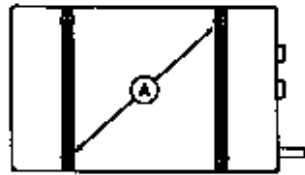

Fig. 1
- loosen the screws "A" (Fig.1) on upper and bottom side of the unit. The other two screws on each side are only there for optical reasons and must not be loosened.